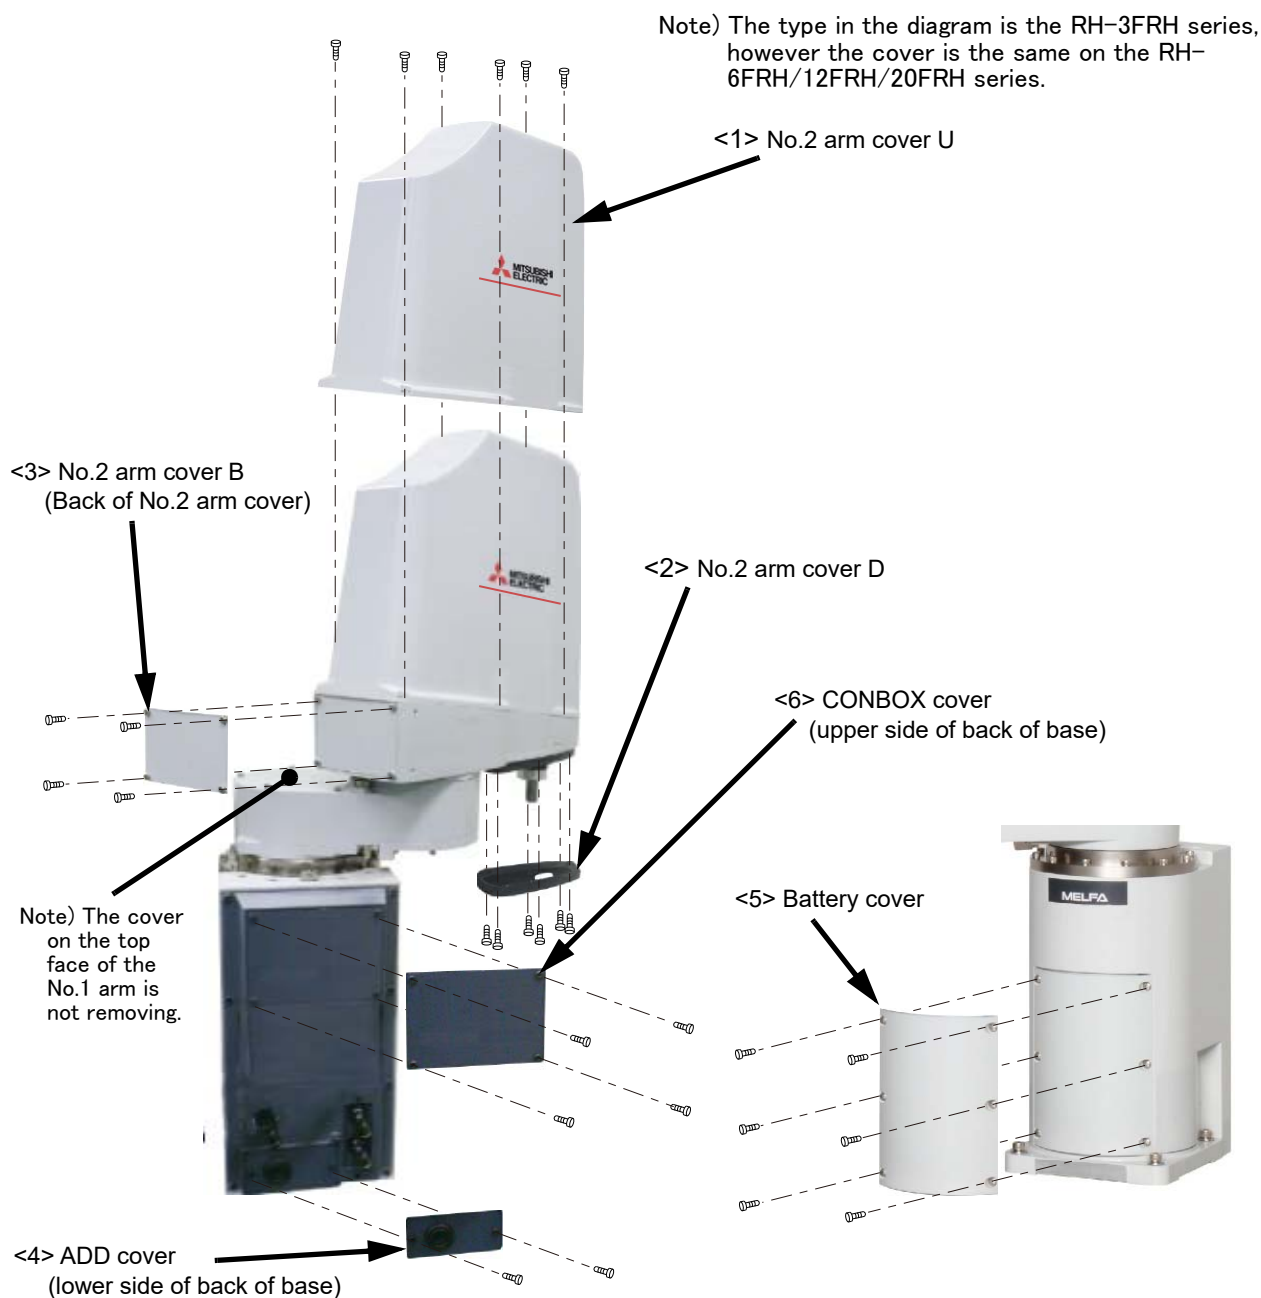

Fig.5-4 : Installing/removing the cover (RH-3FRH/6FRH/12FRH/20FRH series)
- (1) Refer to Fig. 5-4, and remove the covers.
- (2) The names of the cover and installation screw are given in Table 5-4. The number in Table 5-4 correspond to Fig. 5-4.
- (3) When reattaching the covers after a maintenance inspection, proceed in the reverse order of their removal. Tightening the screw with the torque shown in Table 5-4.